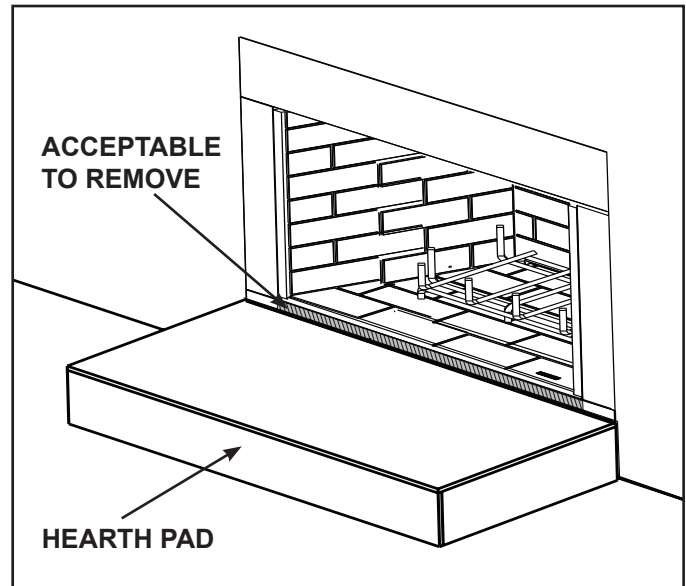

Figure 3.7 Solid Fuel Firebox ←
Minimum fireplace opening requirements for a standard 3/4 inch deep surround are shown in Figure 3.7. For smaller openings, a custom surround is available.
- A metal lip protruding above the hearth pad of the solid fuel firebox may be removed. See Figure 3.7. ←